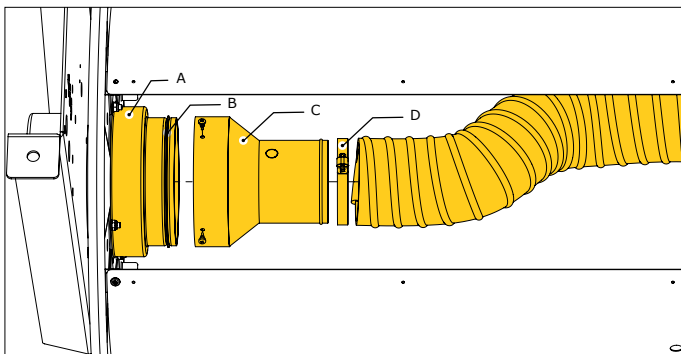

Fig. 4.2 Mounting the hose
- Mount the hose connection (C) and the o-ring (B) to the bearing (A) (fig. 4.2).
- Mount hose to the duct adapter using hose clamp (D) together with the hose support bracket (fig. 4.2).